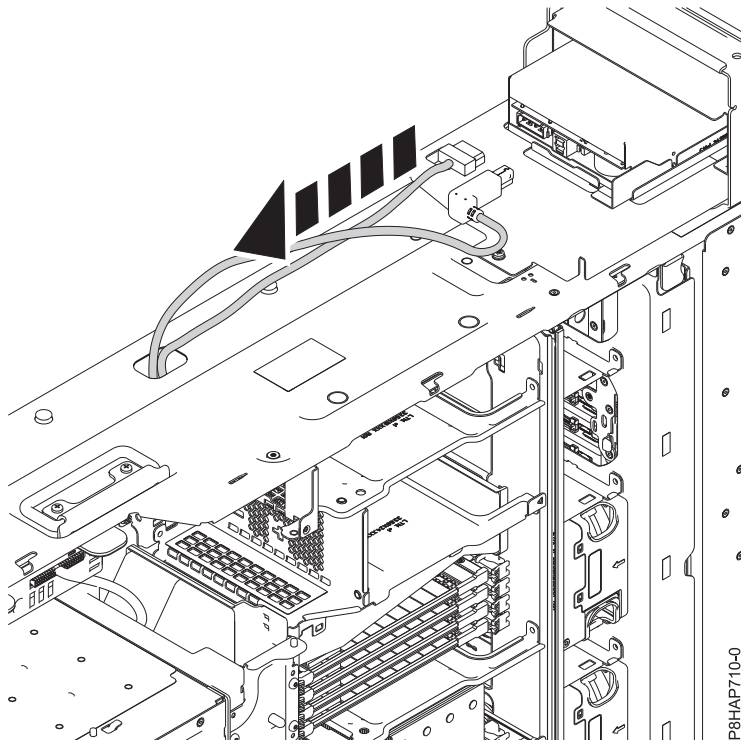

Figure 65. Disconnecting the USB and power supply cables from the internal RDX docking station (FC EUA3)
2. Disconnect the power supply cable from the back of the internal RDX docking station (FC EUA3). See Figure 65 on page 73.